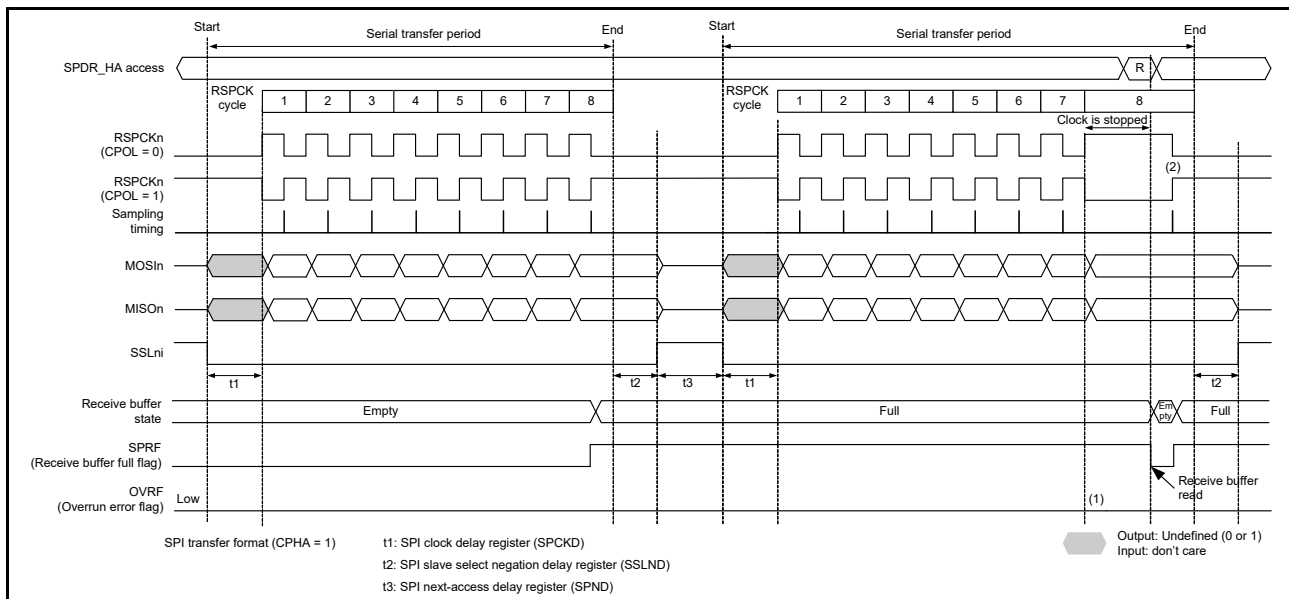
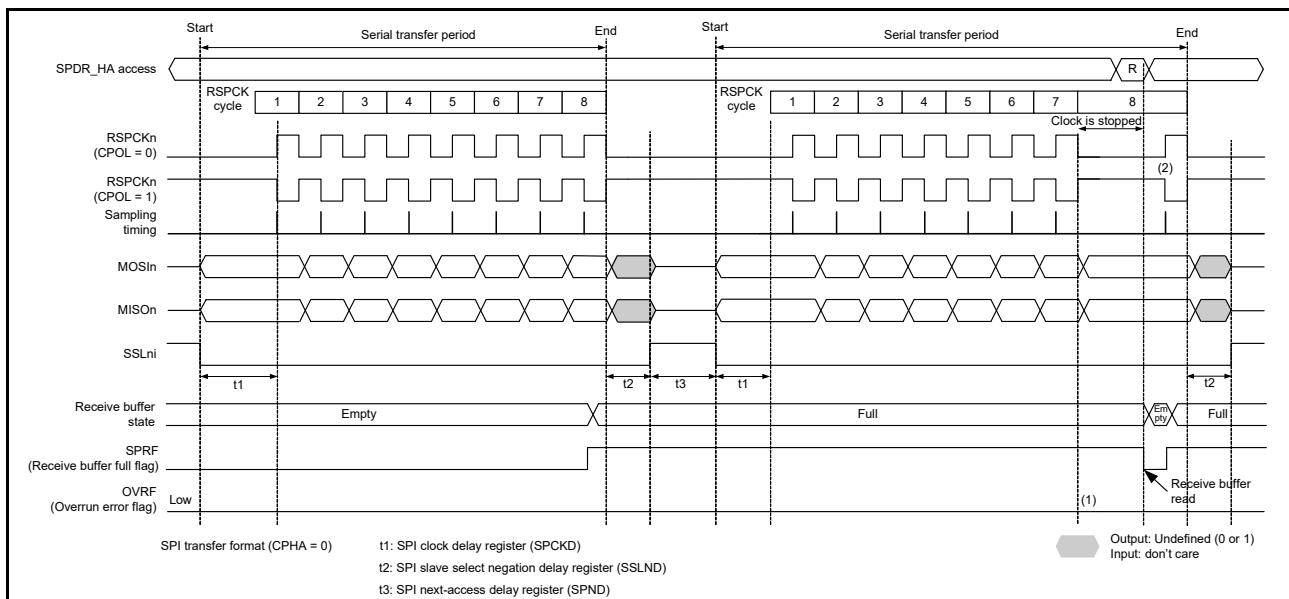

Figure 30.29 Clock stop waveform when serial transfer continues while receive buffer is full in master mode with CPHA = 1
Figure 30.30 Clock stop waveform when serial transfer continues while receive buffer is full in master mode with CPHA = 0
When the RSPCK auto-stop function is enabled in master mode, an overrun error does not occur. Figure 30.29 and Figure 30.30 show the clock stop waveform when a serial transfer continues while the receive buffer is full in master mode.
The operation of the flags at timings (1) and (2) in Figure 30.29 and Figure 30.30 is as follows:
- (1) When the receive buffer is full, an overrun error does not occur because the RSPCK clock is stopped.
- (2) If SPDR/SPDR_HA is read while the clock is stopped, data in the receive buffer can be read. The RSPCK clock restarts after reading the receive buffer (after SPSR.SPRF is set to 0).